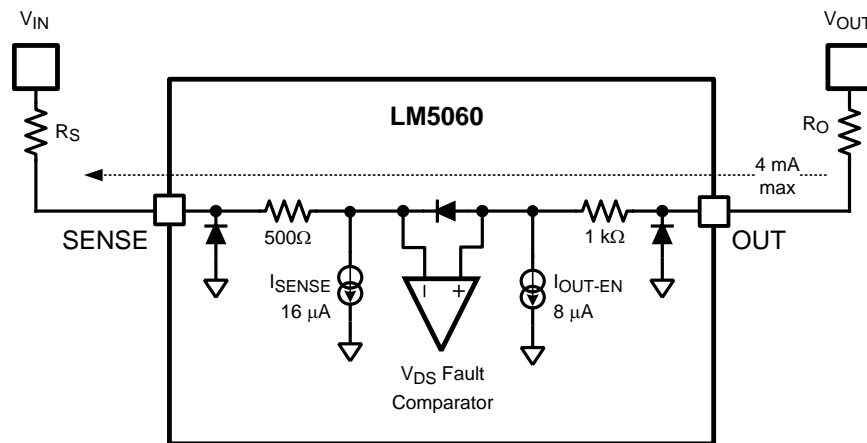

Figure 36. Current Limiting Resistor in the OUT Path for  $\text{OUT} > \text{SENSE}$  Condition
**Case B** for situations where  $V_{\text{OUT}} > V_{\text{IN}}$  and there is no reverse polarity situation present. See Figure 36.  $V_{\text{IN}}$  is positive and  $V_{\text{OUT}}$  is also positive, but  $V_{\text{OUT}}$  is higher than  $V_{\text{IN}}$ :